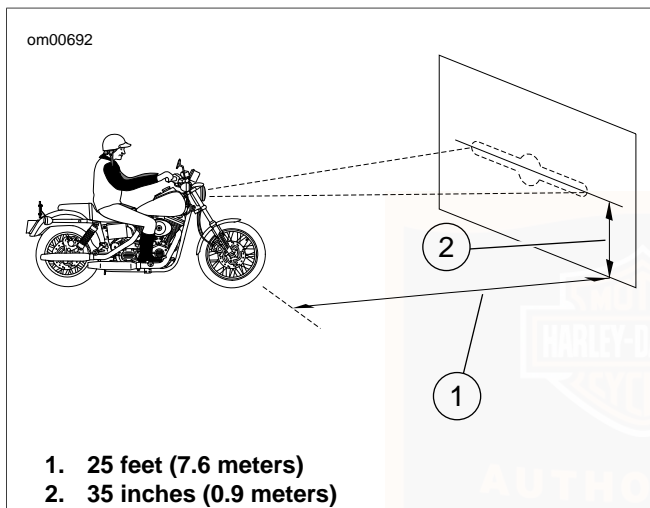

Figure 37. Checking Headlamp Alignment: Dyna Models
3. See Figure 37. Position motorcycle 25 ft (7.6 m) away from a screen or wall. Measure the distance from directly below the front axle to the base of the screen/wall.